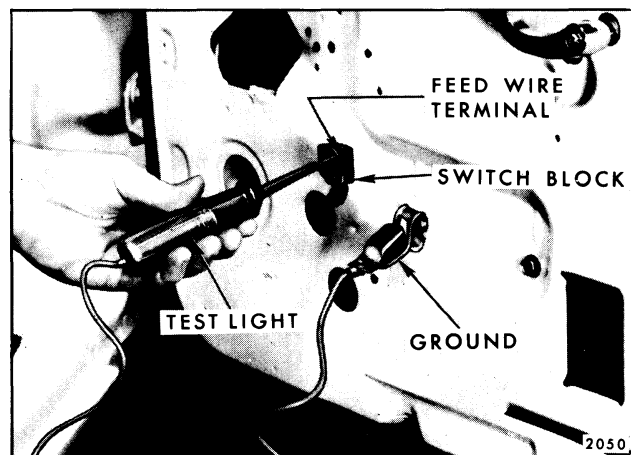

Fig. 10-7-Checking Feed Circuit
1. Connect one test light lead to feed terminal of switch block and ground other tester lead to body metal (Fig. 10-7).